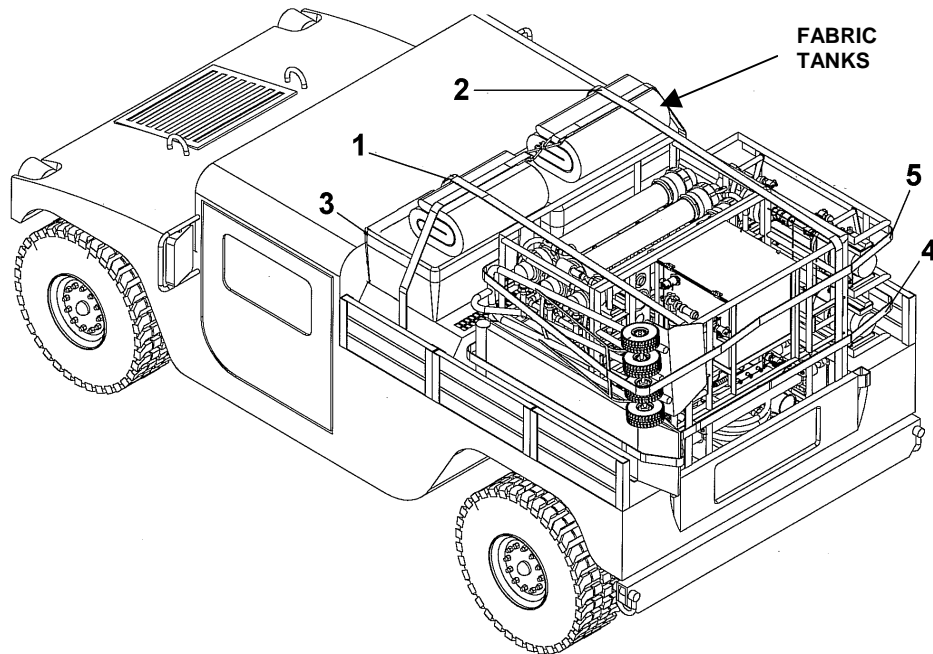

Figure 15. HMMWV Loaded with LWP.
25. Mate the two ends of strap (3) over the fabric tanks and ratchet them down. See Figure 15.
26. Bring the straps (1) and (2) over the modules and secure the hooks on the rings at the end of the cargo bed.
28. Load the ramp and hand truck on the left wheel well and secure with straps (4) and (5). Loop the ends of the straps around the module frames and onto itself. See Figure 15.